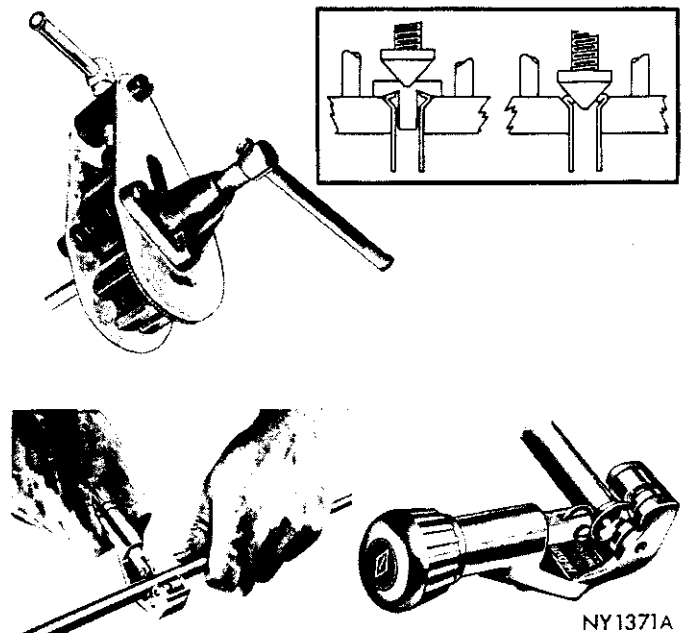

Fig. 3—Cutting and Flaring Steel Tubing
(1) Using Tool C-3478, or equivalent, cut off damaged seat or damaged tubing (Fig. 3).
(2) Ream out any burred or rough edges showing on inside edges of tubing. This will make the ends of tubing square and insure better seating of flared end tubing. **Place compression nut on tubing prior to flaring tubing.**
(3) To flare tubing open handles of flaring Tool C-3838 and rotate jaws of tool until the mating jaws of tubing size are centered in area between vertical posts.
(4) Slowly close handles with tubing inserted in jaws but do not apply heavy pressure to handle as this will lock tubing in place.
(5) Place gauge "Form A" on edge over end of tubing and push tubing through jaws until end of tubing contacts the recessed notch of gauge matching the size of tubing (Fig. 3).
(6) Squeeze handles of flaring tool and lock tubing in place.
(7) Place proper sized plug of gauge "A" down in end of tubing. Swing compression disc over gauge and center tapered flaring screw in recess of disc.
(8) Lubricate taper of flaring screw and screw in until plug gauge has seated on jaws of flaring tool. This action has started to invert the extended end of the tubing.
(9) Remove gauge and apply lubricant to tapered end of flaring screw and continue to screw down until